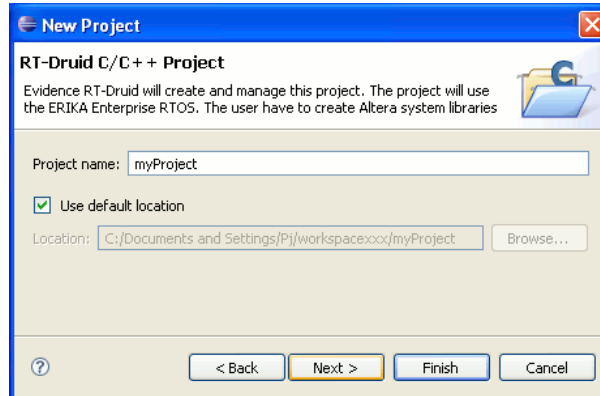

Figure 4.3: Type a name for the new project.
4. Insert the name of the new project. Please type `myProject` (you can choose other names of course). Please see Figure 4.3. Press the “Finish” button.